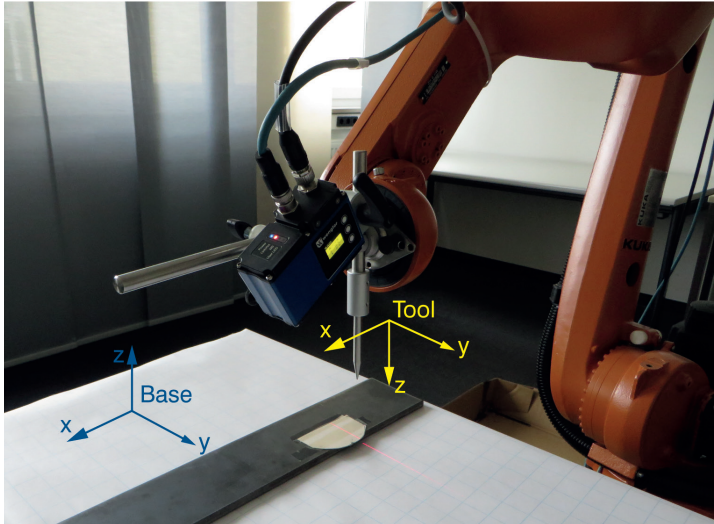

Fig. 17: Base coordinate system and tool coordinates for running the calibration algorithm
3. The tool coordinate system and the base coordinate system are defined as in Fig. 17:
4. The sensor is mounted in front of the tool (in the +X-direction of the tool) using a mechanical tool as illustrated in Fig. 17.
- Change the base coordinate system in the robot controller so that the welding direction is defined in X-Y plane base coordinate system (see Fig. 17).